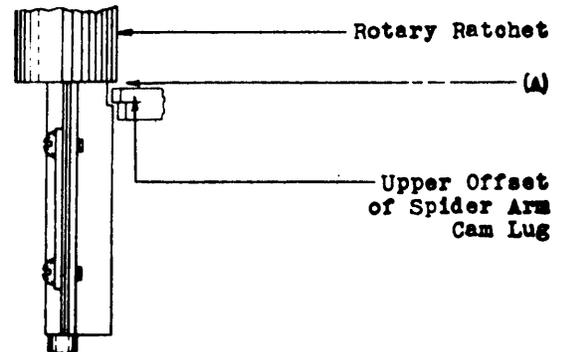

Fig. 6 - Clearance Between Rotary Ratchet and Upper Offset of Cam Lug
2.20 Clearance Between Rotary Ratchet and Upper Offset of Cam Lug: Fig. 6 (A) With the shaft up one step and the spider arm in second position there shall be a clearance between the upper offset of the spider arm cam lug and the rotary ratchet of Approx. .015" Gauge by eye.